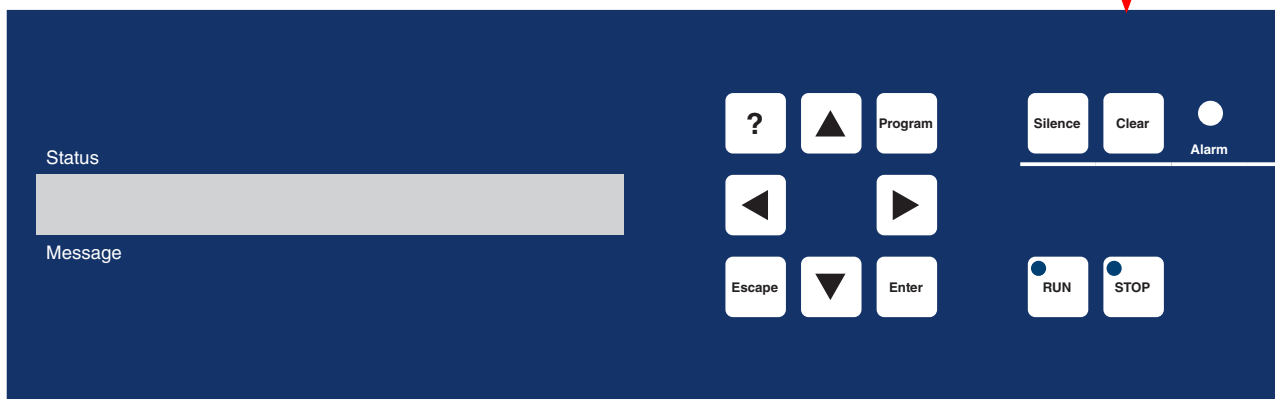

Figure 7.3c: Keypad and Status / Message display.
- The status and message display shows keypad input as well as diagnostic information and messages (Figure 7.3c).